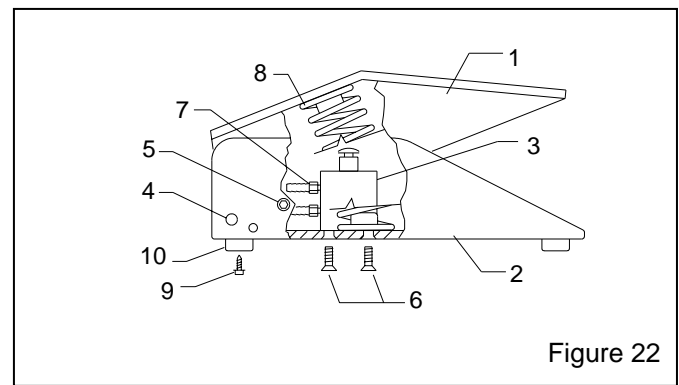

Figure 22
9.6 Foot Pedal Assembly, Figure 22